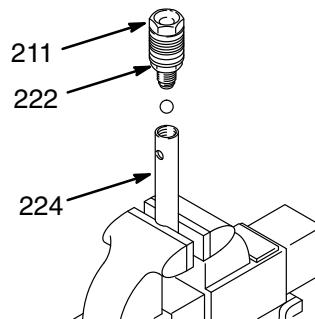

Fig. 20 _____ 02563
6. Clamp the piston rod (224) in a vise. Loosen the retaining nut (211). Unscrew the piston valve (222). See Fig. 20.